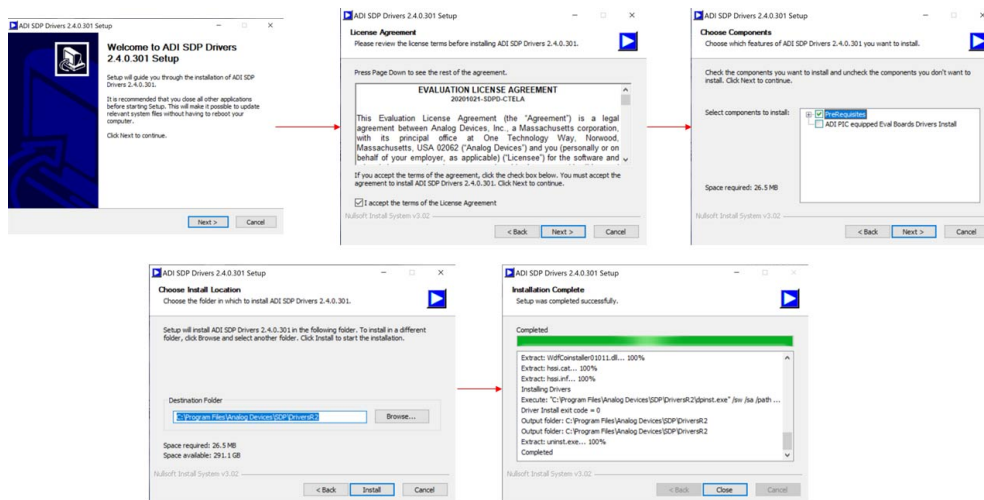

Figure 10. SDP Drivers Installation
4. The installer for the SDP drivers automatically pops up next. Follow the prompts on the screen again to complete the installation (see Figure 10).